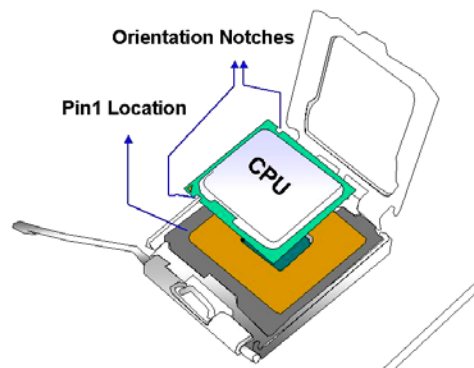

Figure 5-4: Insert the Socket LGA775 CPU
Step 7: Insert the CPU. Gently insert the CPU into the socket. If the CPU pins are properly aligned, the CPU should slide into the CPU socket smoothly. See **Figure 5-4**.